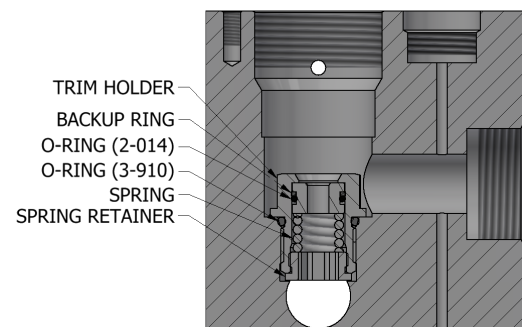

Figure 4 – Trim Removal
- 7.2 Remove the stem trim assembly (see Figure 4). Use care to avoid damage to the internal surfaces of the SkoFlo valve. – *7/8" Deep Hex Socket*
- 7.7 Install the O-rings and backup ring per Figure 4. Make sure the backup ring is on the same side as the trim chamfer.